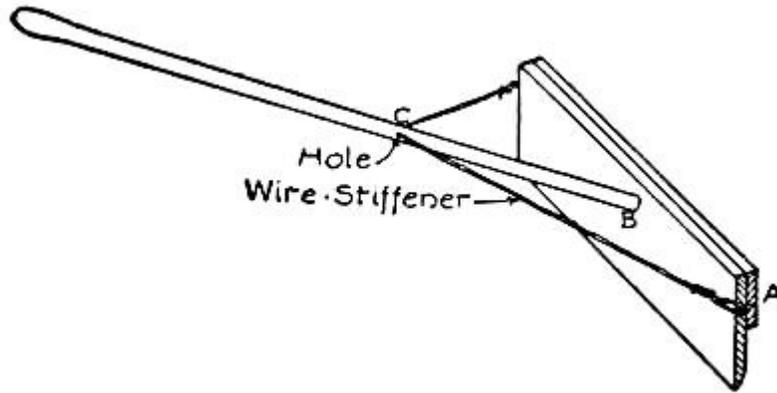

FIG. 180.—A Scraper.
**A Scraper** is about the best appliance that can be had for cleaning snow from the steps, especially when the snow has turned to slush. For the making of one of these, prepare a seven-eighths inch board sixteen inches long by four inches wide. Bevel the lower edge and nail a two inch strip below the top, as at *A* in Fig. 180. Bore a hole through both thicknesses of wood at *B* and fit a broom-handle in it, bracing the handle with a piece of wire run from a small hole bored in the handle at *C* to the ends of the scraper.